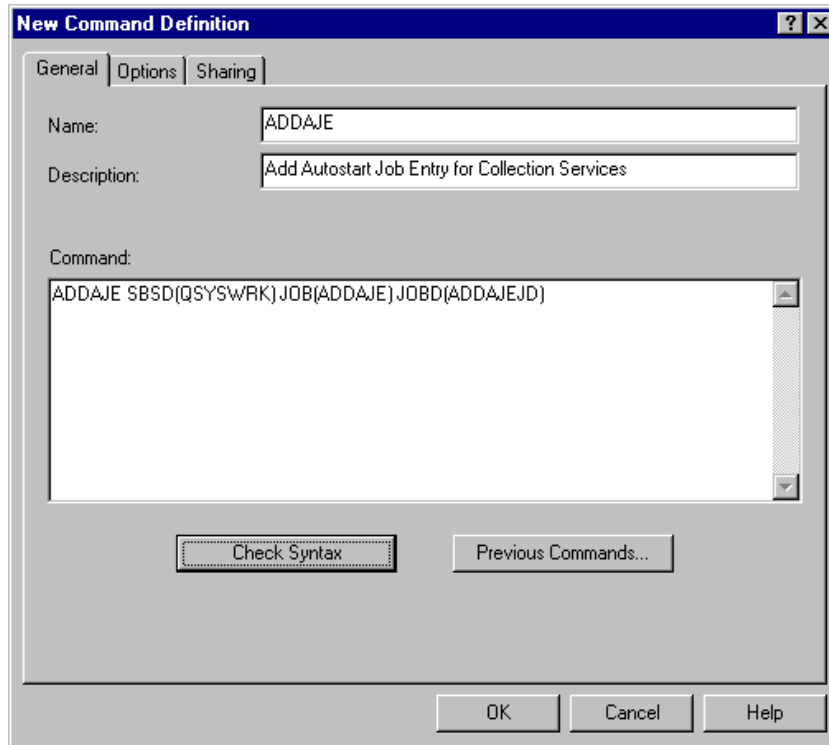

Figure 121. New Command Definition window: ADDAJE example
5. On the New Command Definition window, create the `ADDAJE` command as described in step 7 in 8.7.1, “Adding an autostart job entry on a single system” on page 146. An example is shown in Figure 121 on page 149.